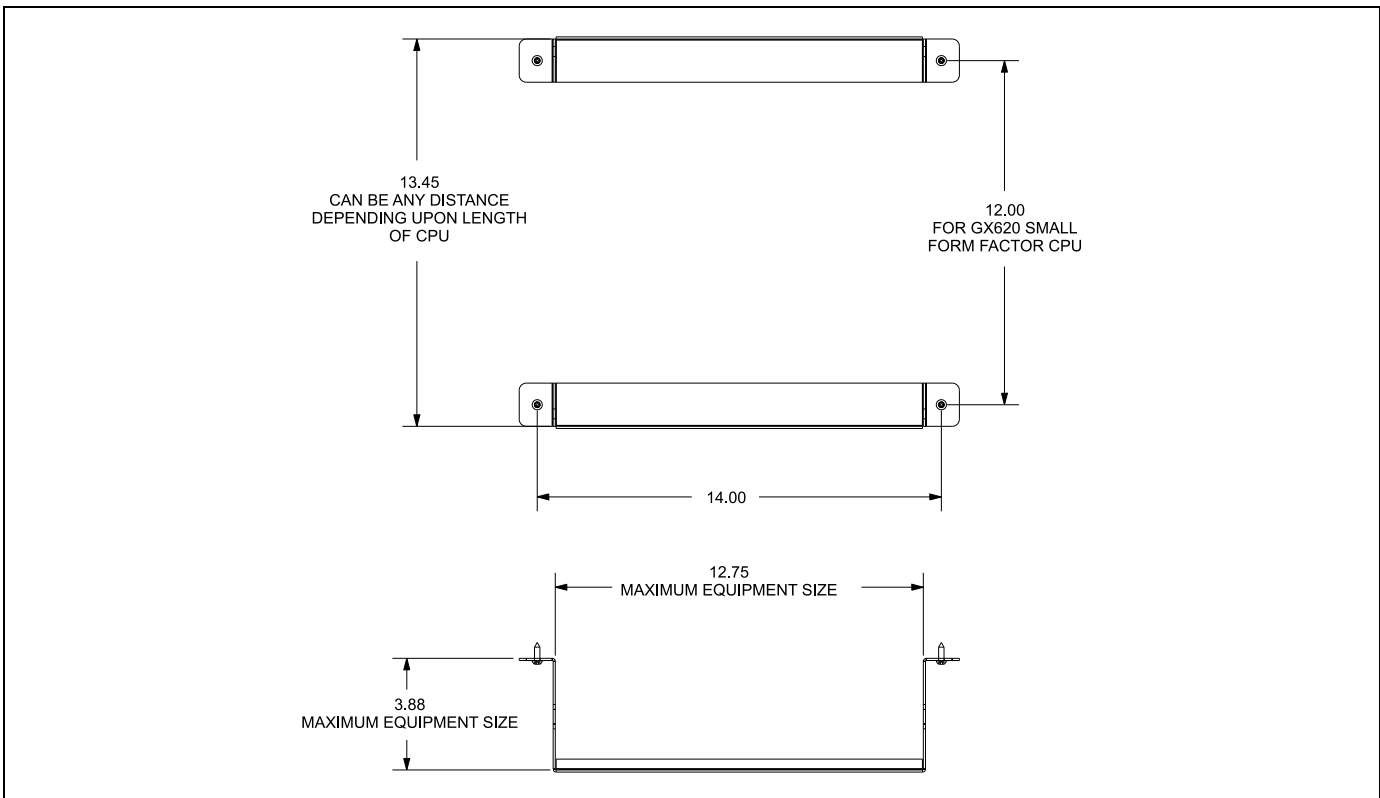

Figure 1
2. Mark and drill four 3/32" (2.4mm) pilot holes into mounting surface. (See Figure 1)